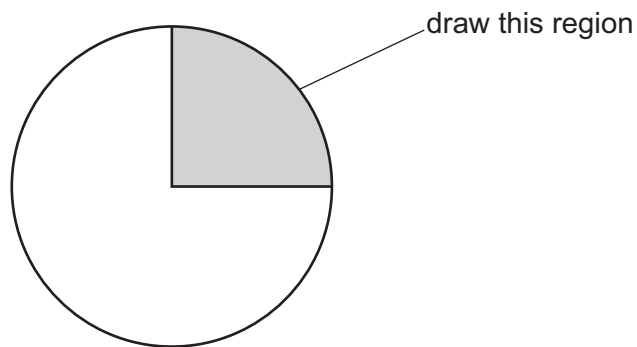

Fig. 2.1
- (a) (i) Draw a large plan diagram of the region of the stem on **K1** indicated by the shaded area in Fig. 2.1. Use a sharp pencil.